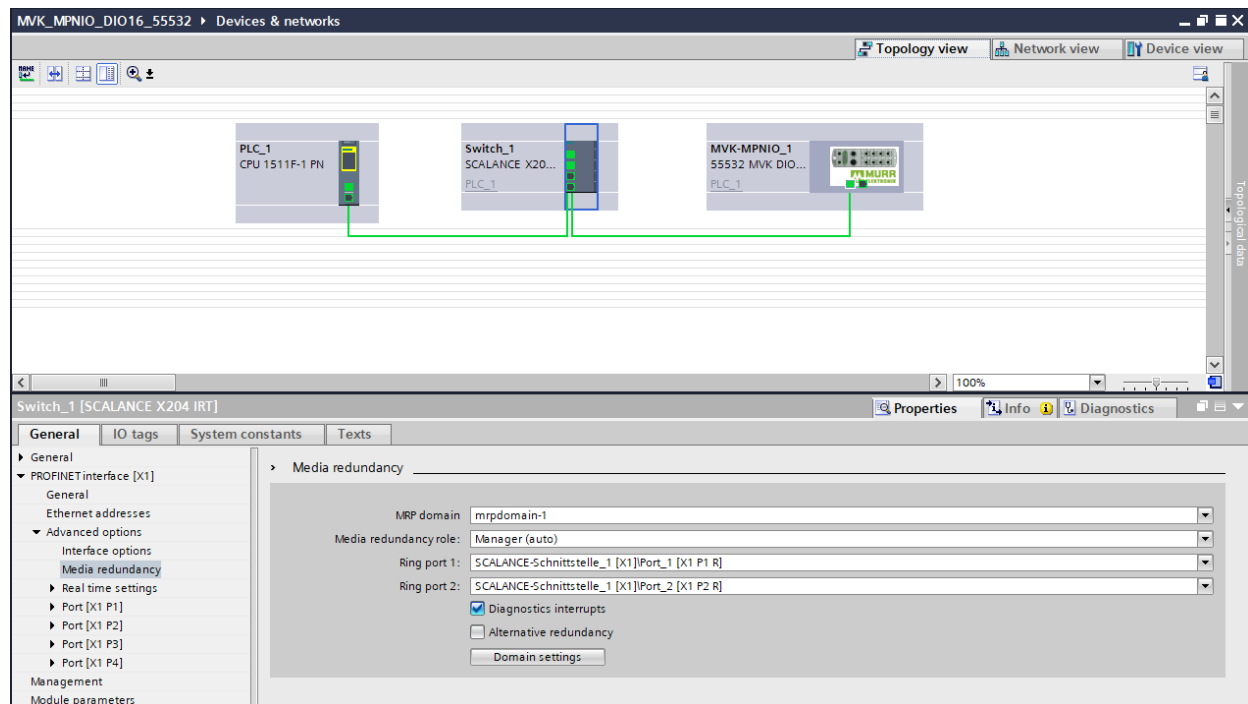

Fig. 8-45: Setting up the MPR manager
- 4 | Assign the **MVK-MPNIO** device to the controller (see Fig. 8-45: "Setting up the MPR manager").